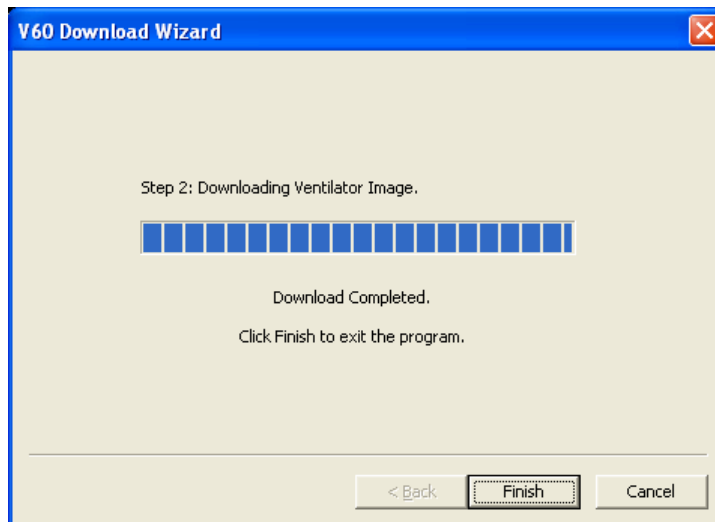

Figure A-18: Download Completed
15. When download is complete, click **Finish** (Figure A-18).